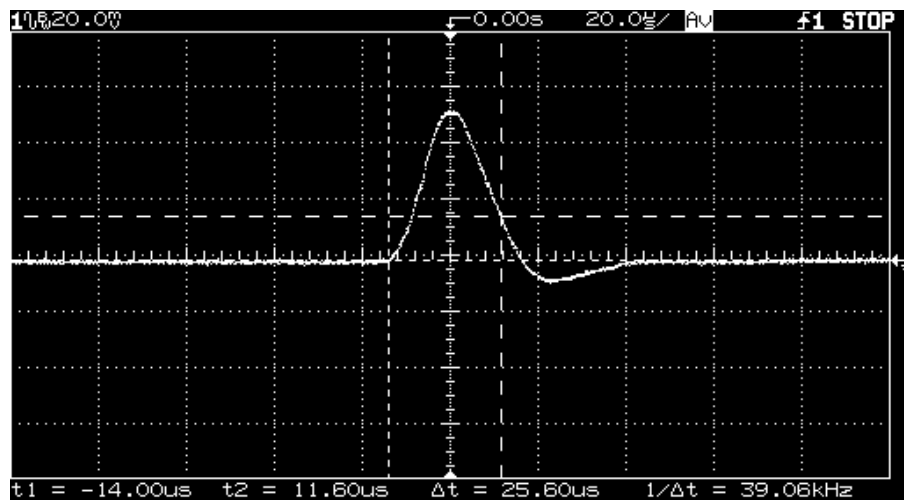

Figure 3-2. Transient Response Time
- 5 Adjust the the oscilloscope to display transients as shown in Figure 3-2. Note that the pulse width (t_2-t_1) of the transients at 15 mV from the base line is no more than 50 μsec for the output.